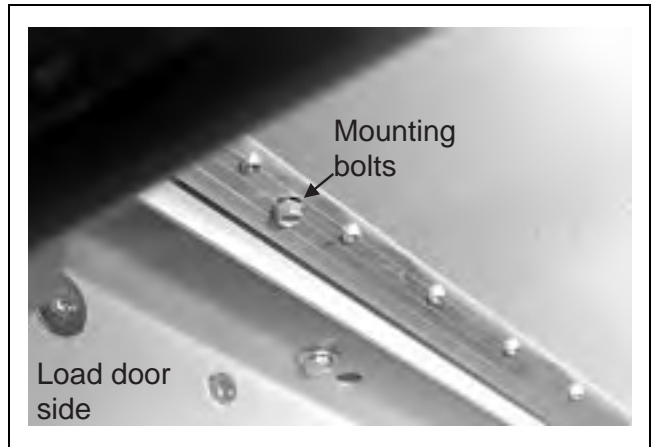
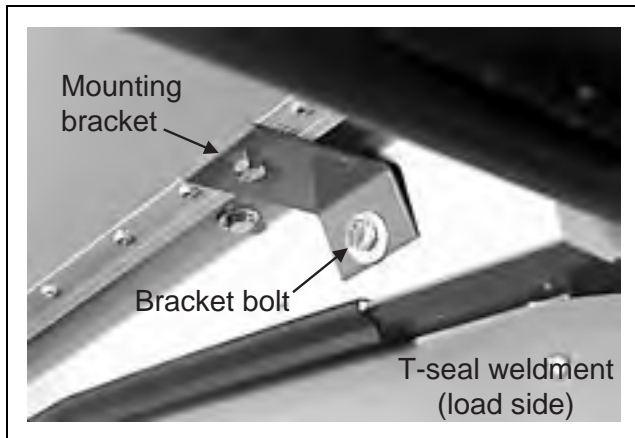
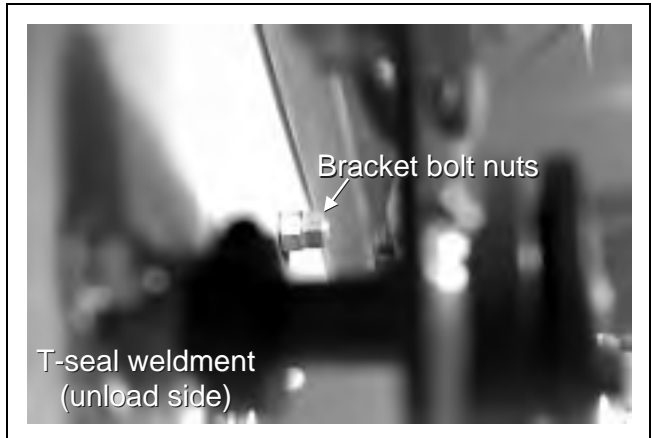

FIGURE 1 (MSSMD447AE)
FIGURE 2 (MSSMD447AE)
FIGURE 3 (MSSMD447AE)
3. Locate the *mounting bolts* (FIGURE 1) installed on the screen edge closest to the load door and the *mounting brackets* installed on the screens rear edge (FIGURE 2).
4. Remove the *mounting bolts*. Do not remove the *mounting brackets* (FIGURE 2). These brackets correctly position screen for re-installation. Remove the mounting bracket side of the screen by removing the bracket bolt (FIGURE 2), and the bracket bolt nuts (FIGURE 3) located behind the T-seal weldment.